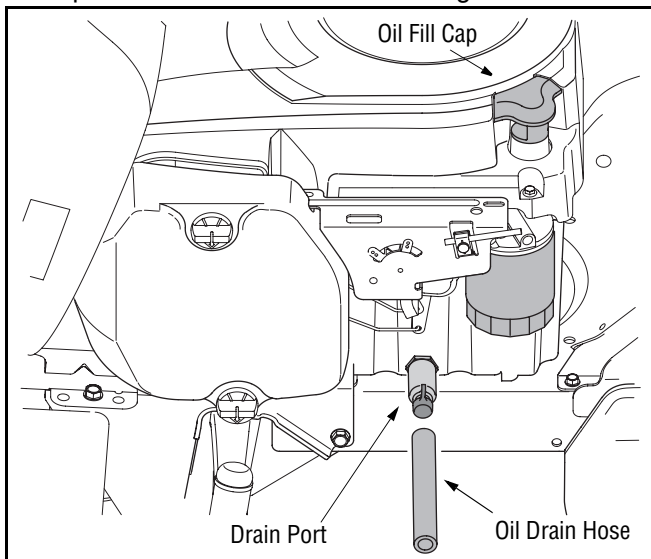

Figure 15
- Carefully pull upward on the oil fill cap and remove dipstick from the oil fill tube. See Figure 15.
- Pop open the protective cap on the end of the oil drain valve to expose the drain port. See Figure 15.
- Push the oil drain valve in slightly, then rotate counterclockwise and pull outward to begin draining oil. See Figure 15.